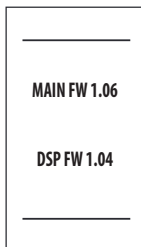

fig. 7 - Turning on / Software version
- During the first 5 seconds the display shows the software version of the board and display (*fig. 7 - Turning on / Software version*).